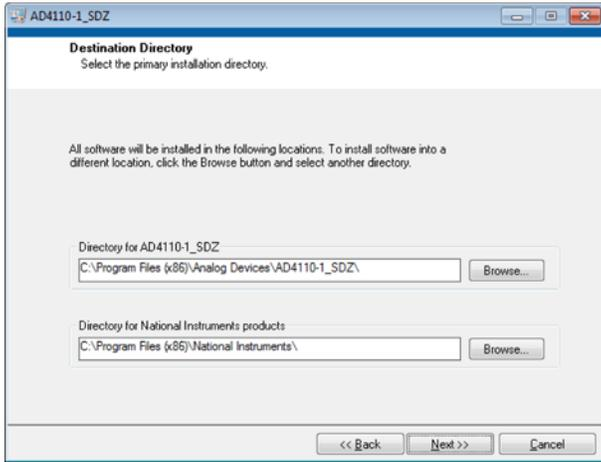

Figure 6. File Location Selection Window
- Select the location to install the software and click **Next>>**. To select another location, click **Browse...** (see Figure 6).